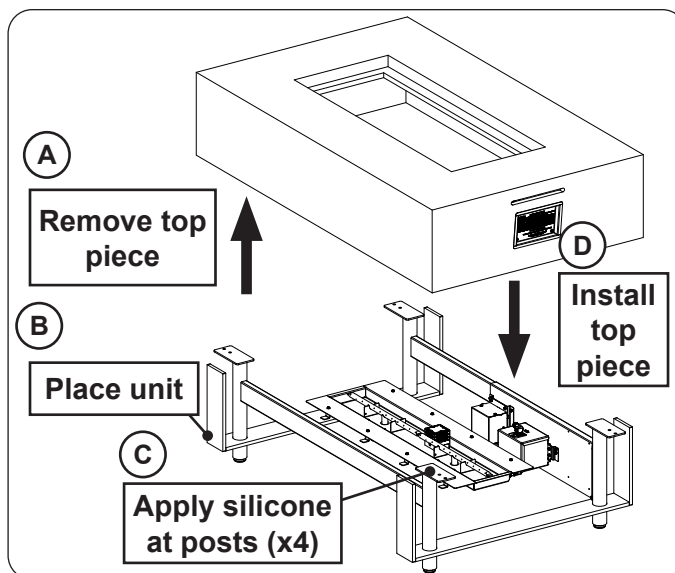

Fig. 30-3 Location installation
4. **CAREFULLY** set the top/main unit piece aside (see Fig. 30-3, A). Then place the metal frame in an appropriate location, (see Fig. 30-3, B and refer back to the LOCATION section if needed).
5. Apply silicone at the 4 posts, and replace the top/main unit (see Fig. 30-3, C and Fig. 30-3, D).